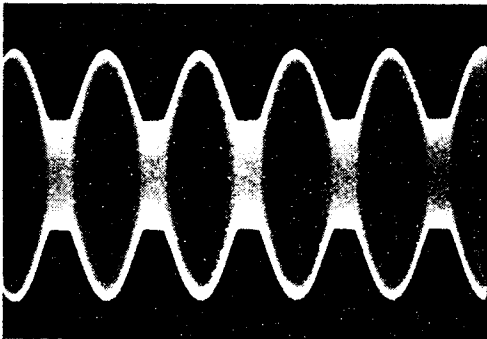
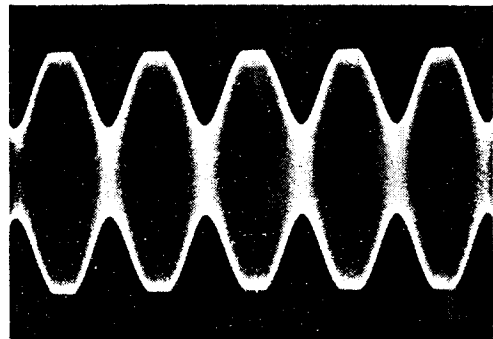

Figure 3-1. Correct Phasing, as Indicated by Intentionally Overdriven Volumax
Figure 3-2. Incorrect Phasing, as Indicated by Intentionally Overdriven Volumax
- f. Figure 3-1 shows a correctly phased waveform. If you observe a waveform as in Figure 3-2, reverse the output leads of the Volumax.